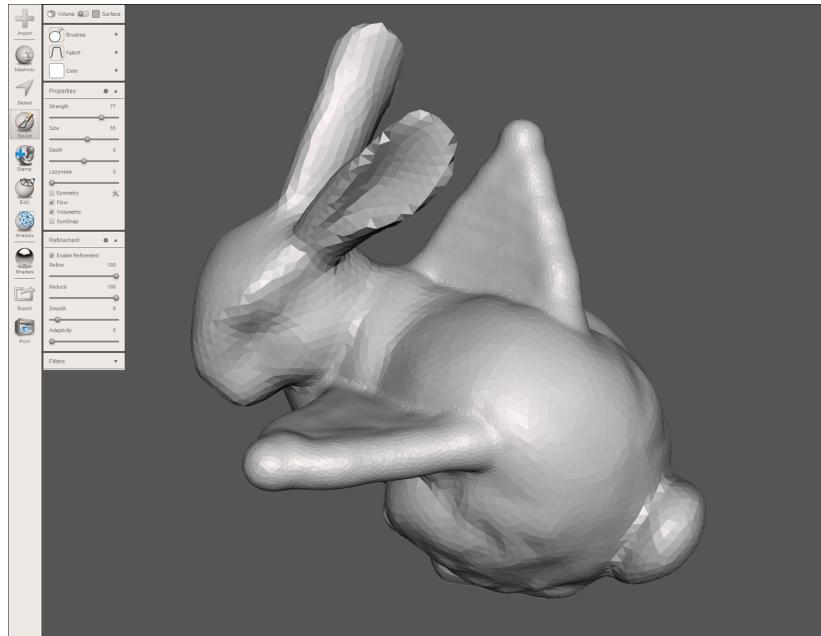

Figure 10-7. Both wings have been added to the bunny
4. Once you have drawn one wing, rotate your view to the other shoulder with the right mouse button, and “draw” another wing so that your bunny can properly fly as shown in Figure 10-7.